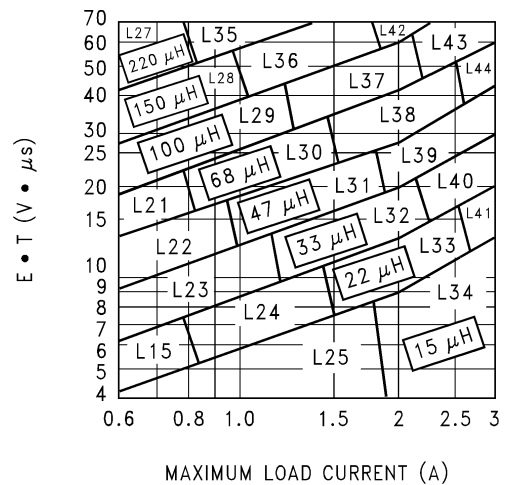

Figure 24. LM2596-ADJ
| <p>2. Inductor Selection (L1)</p> <p>A. Calculate the inductor Volt • microsecond constant $E \cdot T$ ($V \cdot \mu s$), from the following formula:</p> $E \cdot T = (V_{IN} - V_{OUT} - V_{SAT}) \cdot \frac{V_{OUT} + V_D}{V_{IN} - V_{SAT} + V_D} \cdot \frac{1000}{150 \text{ kHz}} (V \cdot \mu s)$ <p>where</p> <ul style="list-style-type: none"> V_{SAT} = internal switch saturation voltage = 1.16V V_D = diode forward voltage drop = 0.5V (4) <p>B. Use the $E \cdot T$ value from the previous formula and match it with the $E \cdot T$ number on the vertical axis of the Inductor Value Selection Guide shown in Figure 24.</p> <p>C. on the horizontal axis, select the maximum load current.</p> <p>D. Identify the inductance region intersected by the $E \cdot T$ value and the Maximum Load Current value. Each region is identified by an inductance value and an inductor code (LXX).</p> <p>E. Select an appropriate inductor from the four manufacturer's part numbers listed in Table 3.</p> | <p>2. Inductor Selection (L1)</p> <p>A. Calculate the inductor Volt • microsecond constant ($E \cdot T$),</p> $E \cdot T = (28 - 20 - 1.16) \cdot \frac{20 + 0.5}{28 - 1.16 + 0.5} \cdot \frac{1000}{150} (V \cdot \mu s)$ $E \cdot T = (6.84) \cdot \frac{20.5}{27.34} \cdot 6.67 (V \cdot \mu s) = 34.2 (V \cdot \mu s) \quad (5)$ <p>B. $E \cdot T = 34.2 (V \cdot \mu s)$</p> <p>C. $I_{LOAD(max)} = 3A$</p> <p>D. From the inductor value selection guide shown in Figure 24, the inductance region intersected by the 34 ($V \cdot \mu s$) horizontal line and the 3A vertical line is 47 μH, and the inductor code is L39.</p> <p>E. From the table in Table 3, locate line L39, and select an inductor part number from the list of manufacturers part numbers.</p> |